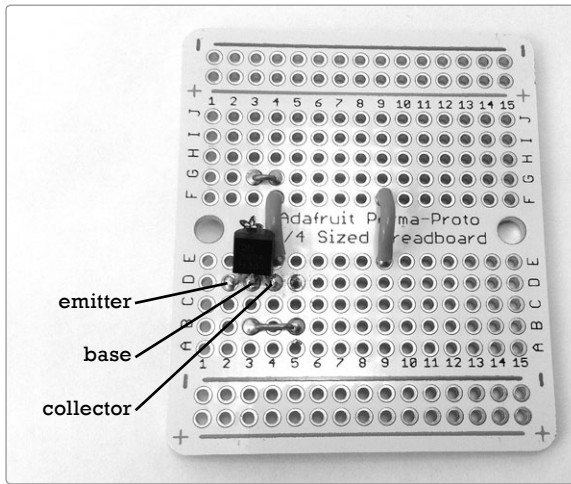

FIGURE 14-10: *The transistor is in place.*
Step 8 Next is the transistor. These NPN transistors have a black body, flat face, and three legs. If the face is toward you and the legs down, then those legs are, from left to right, the *emitter*, *base*, and *collector*. Mount the transistor so that its emitter is in 2D, its base in 3D, and its collector in 4D, as shown in Figure 14-10. Solder these legs now.